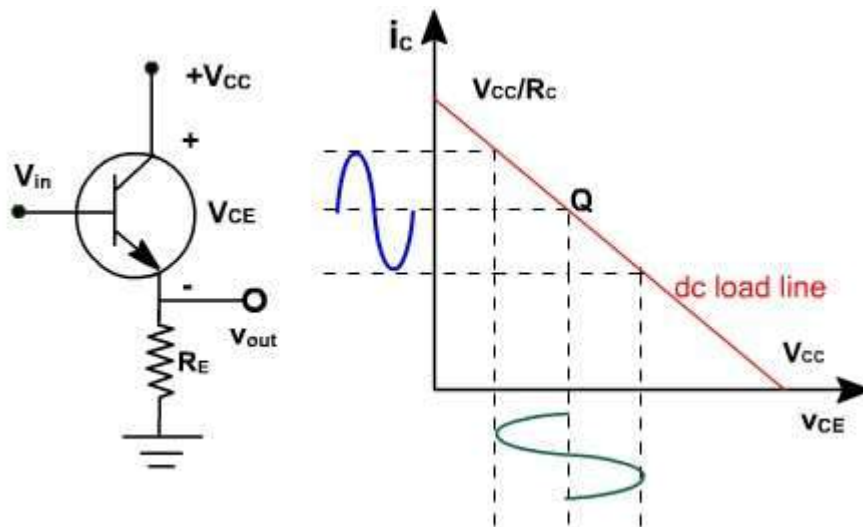

Fig. 1
Fig. 1, shows a common collector (CC) amplifier. Since there is no resistance in collector circuit, therefore collector is ac grounded. It is also called grounded collector amplifier. When input source drives the base, output appears across emitter resistor. A CC amplifier is like a heavily swamped CE amplifier with a collector resistor shorted and output taken across emitter resistor.
This is the equation of dc load line. The dc load line is shown in Fig. 1.